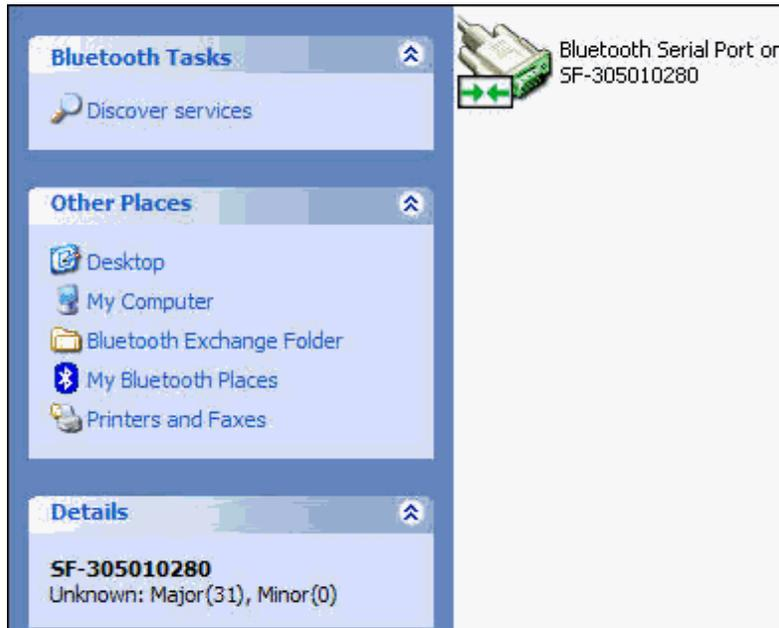
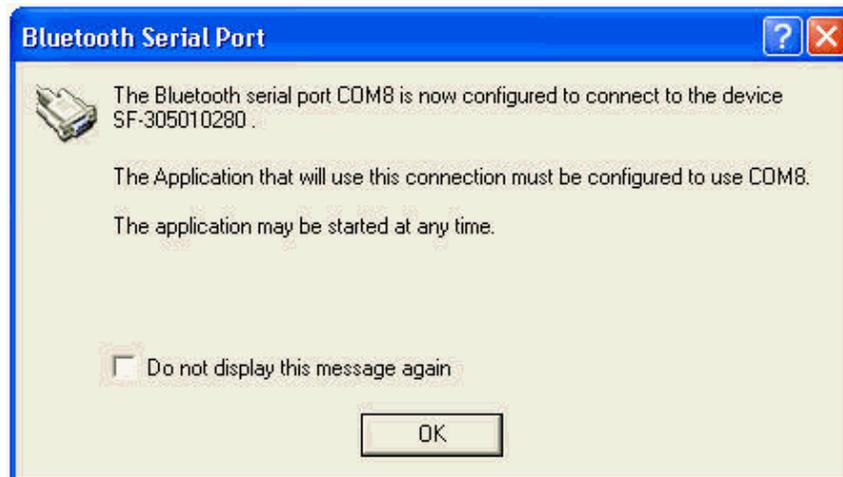

Figure 44: Bluetooth Virtual COM Port Connection Established
Figure 45: Bluetooth Virtual COM Port Connection Confirmed
- Double-click the Bluetooth serial port icon. An icon with green arrows is displayed, indicating a connection is established between the Bluetooth Virtual COM port on the PC and the Bluetooth dongle (see Figure 44).
- Double-click the Bluetooth Serial Port icon shown in Figure 44 to display the *Bluetooth Serial Port* dialog box, which confirms the configured COM port (see Figure 45).
14. Select the appropriate COM Port from the dropdown list (refer to Figure 45 above).